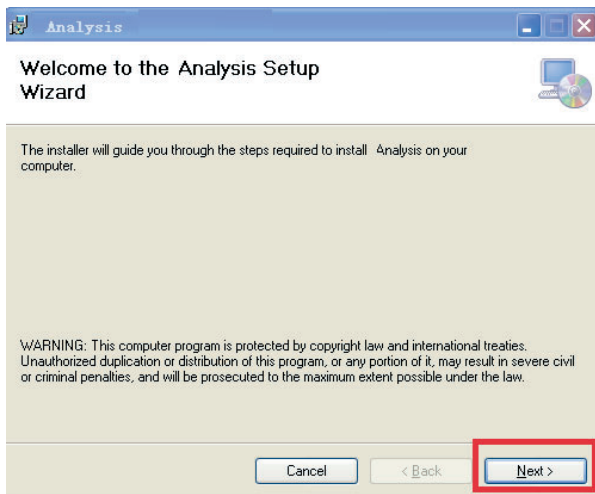

Figure 2-8
- Go to the main program installation interface successfully. See figures 2-8 to 2-11: